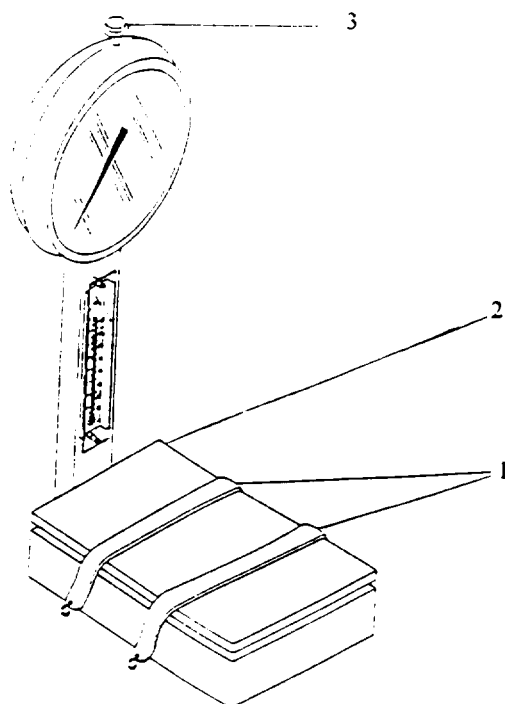

Figure 4-5. Scale Replacement
- (1) Turn the four adjustable feet (7) until the scale is resting firmly at each corner on the supporting surface.
- (2) Verify the scale is level by observing the leveling device attached to the side of the column assembly. The plum rod should be centered as closely as possible for the best results.
- (3) Using the lock nuts loosened in para d, above, lock each adjustable foot in position.
- k. Adjust the zero balance device (3, Figure 4-5) to obtain a zero reading. Turning the zero balance clockwise causes the indicator assembly to move clockwise. Turning the zero balance device counterclockwise causes the indicator assembly to move counterclockwise.
4-13 SCALE REPLACEMENT. (Refer to Figure 4-5)